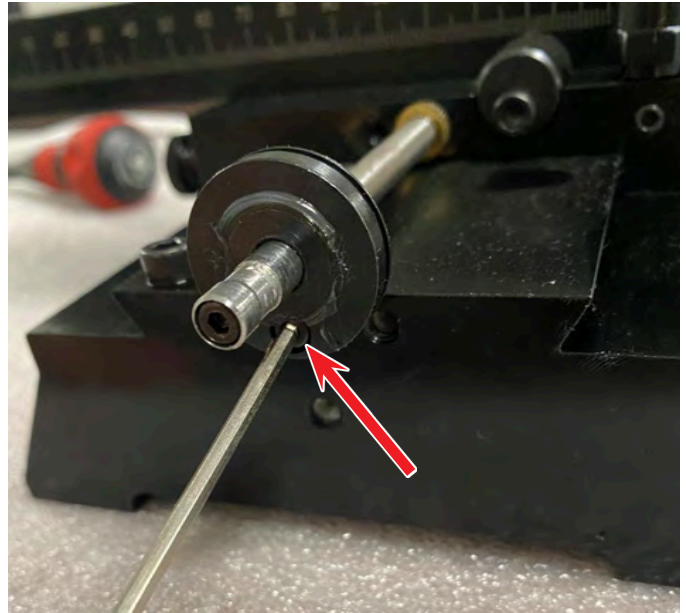

FIGURE 6
F. Using a 3/32" hex key, remove the thrust collar (see Figure 6).